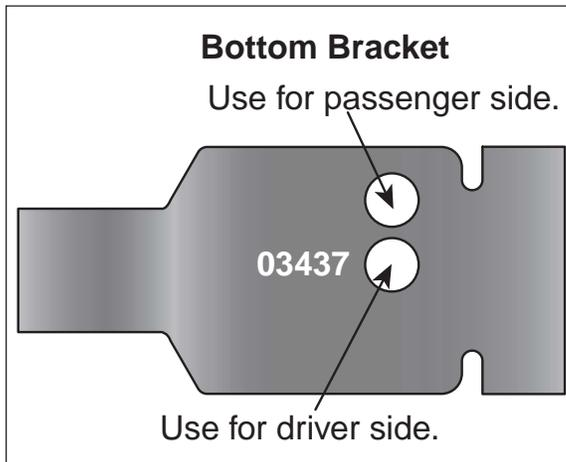

Figure 2
1. Attach the lower bracket using the supplied taper head screw. Be sure to use the correct holes designated for the driver-side and passenger-side assemblies (Figures 2 and 3). Tighten securely.